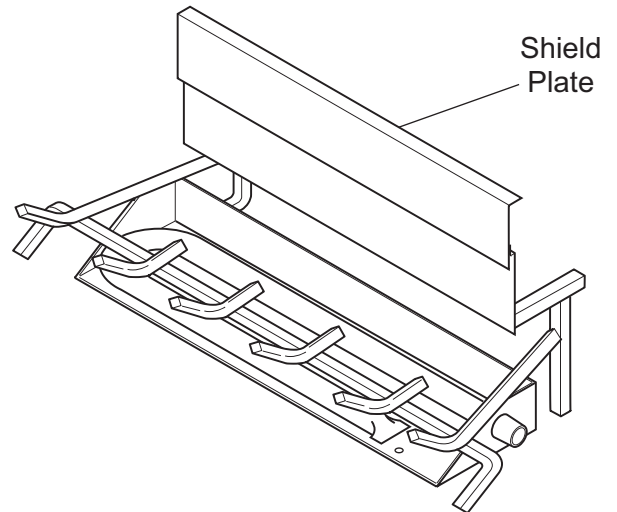

Figure 84 - Sliding Shield Plate Down Back of Burner Pan
1. Slide shield plate down back of burner pan. *See Figure 84.*